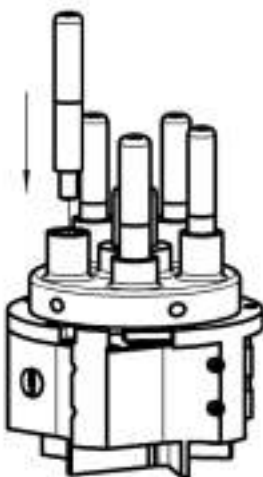

Fig.70: Inserting the contact pin
2. Insert the new contact pin (Fig. 70).